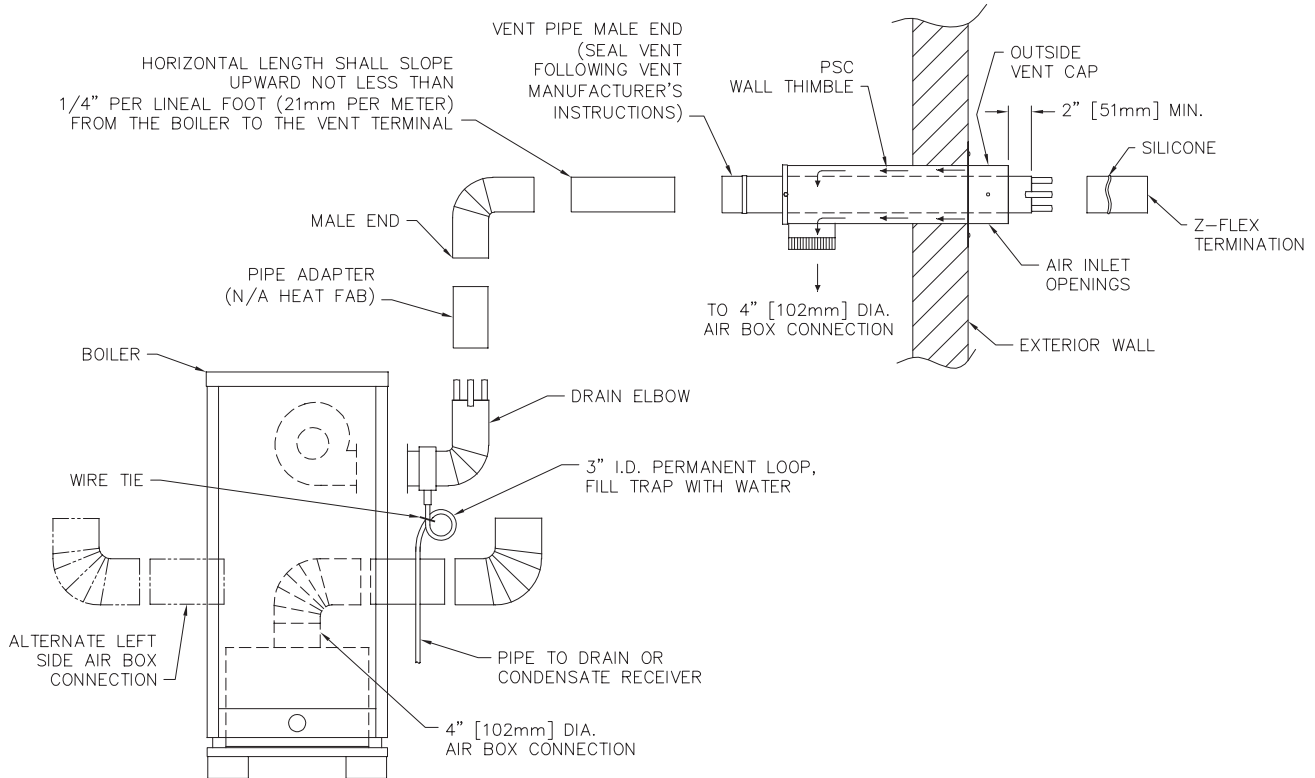

Figure 4.2: Side Wall Venting System
- Attach Z-Flex #2SVSTPF03 terminal to protruding vent pipe. Refer to Figure 4.2. To attach to HEAT-FAB pipe, insert into pipe end and fold over tabs to secure. Otherwise, silicone terminal to vent pipe.
Locate condensate hose and cable tie in Accessory Carton. Connect hose to drain fitting on condensate elbow. Form a 3" diameter loop and secure with cable tie. Fill loop with water. Pipe to drain or condensate receiver. See Figure 4.2.
2. Use only 3" (76 mm) diameter Type AL29-4C stainless steel vent pipe and fittings for venting of flue gases from the boiler. When using other than Heat-Fab vent pipe, an adapter must be installed on the outlet of condensate elbow. See Figure 4.2. Adapter part numbers are as follows: